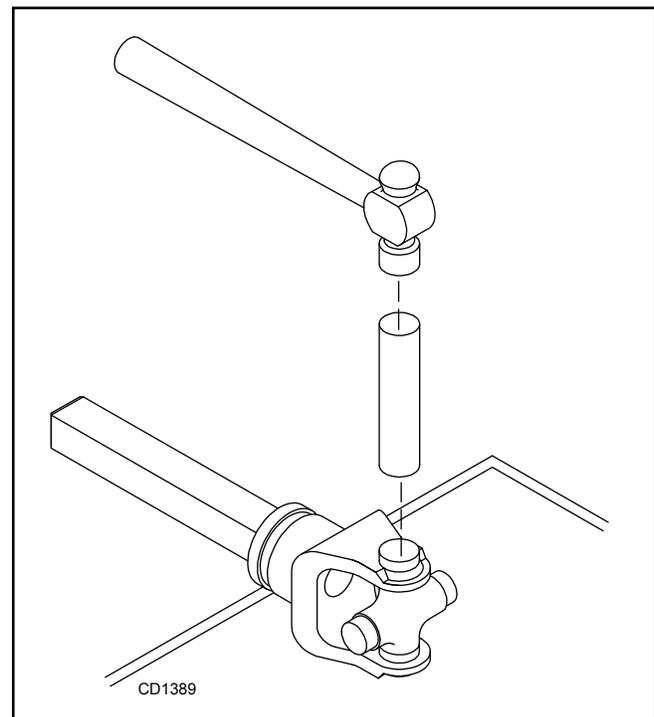

Figure 30.
3. Seat cups by placing a drift or socket (slightly smaller than the cup) on cup and rap with a hammer. See Figure 30. Install snap ring and repeat on opposite cup.